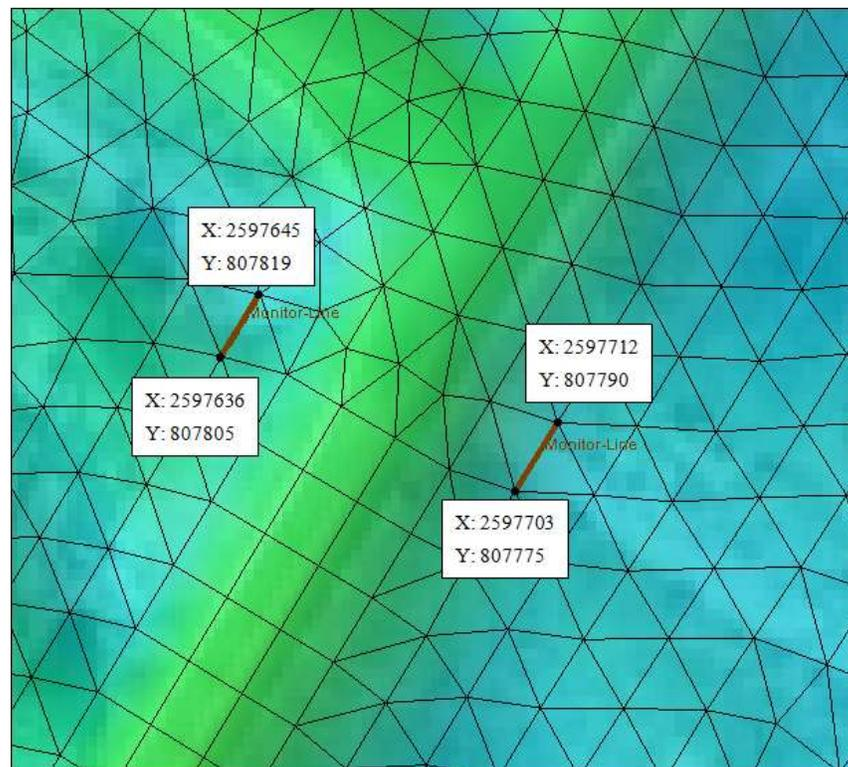

Figure 4 Coordinates for the four nodes
- Using the **Select Feature Point** tool, select the top left arc node (upstream) and manually enter the X and Y values from Figure 4 into the coordinate fields at the top of the Graphic Window.
9. Repeat step 8 for the remaining nodes, and using the data from Figure 4.